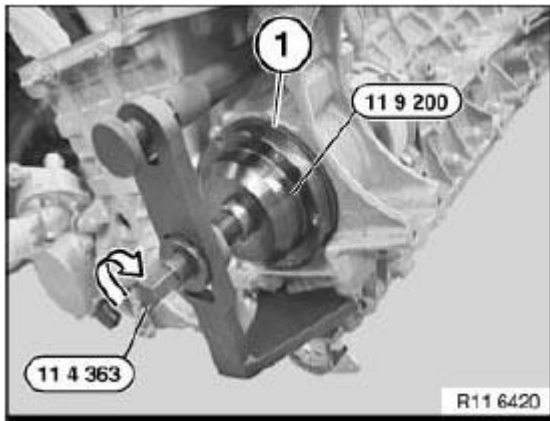

Fig. 79: Identifying Special Tools (11 9 200 And 11 4 363)
Prepare new sealing cover (1) with special tool 11 9 200 **without** screws. See **Fig. 79**.